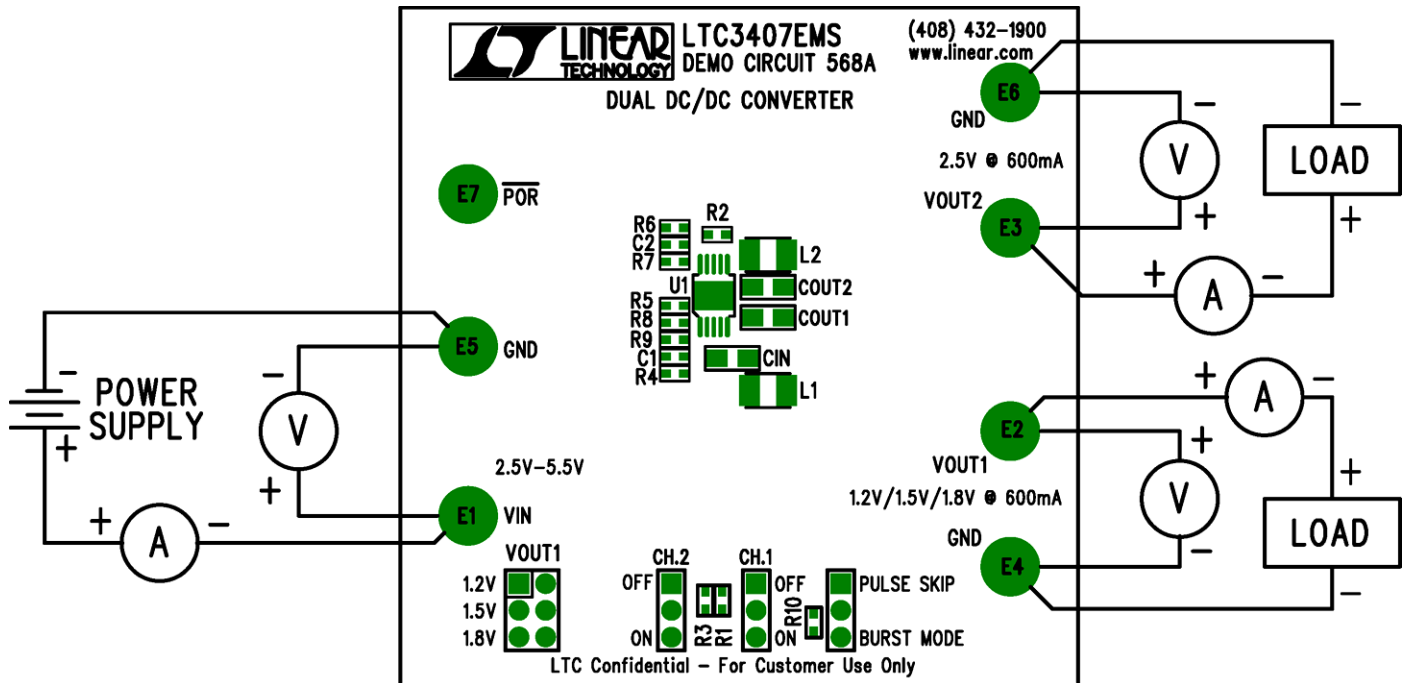

Figure 1. Proper Measurement Equipment Setup
Demonstration circuit 568 is easy to set up to evaluate the performance of the LTC3407. Refer to Figure 1 for proper measurement equipment setup and follow the procedure below:
1. Connect the input power supply to the V_{IN} and GND terminals on the left-side of the board. Do not hot-plug V_{IN} or increase V_{IN} over the rated maximum supply voltage of 5.5V, or the part may be damaged. Connect the loads between the V_{OUT} and GND terminals on the right-side of the board. Refer to figure 1 for the proper measurement equipment setup.